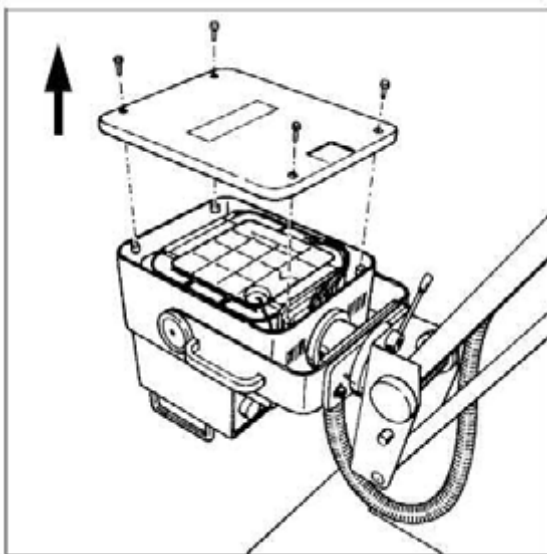

Fig. 50: single_tank_III
- Remove the 4 Allen screws (3 mm key size) from the lid of the single tank and take off the lid ((Fig. 50 / p. 98)).